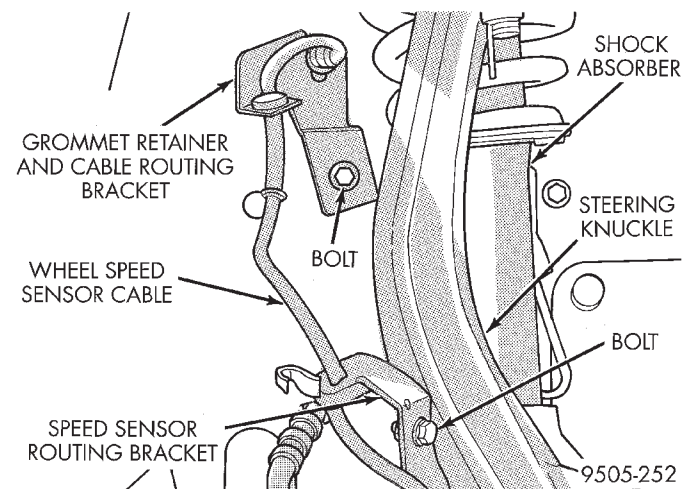

Fig. 29 Wheel Speed Sensor Cable Grommet Retainer
(11) Remove retainer for wheel speed sensor cable grommet (Fig. 29) from right inner fender.